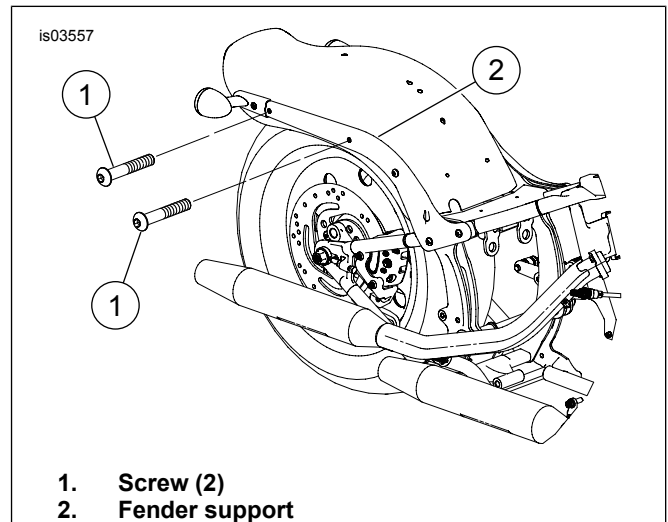

Figure 2. Existing Hardware (Without Docking Points)
- a. See Figure 2. Remove and discard screws (1) from fender support (2).